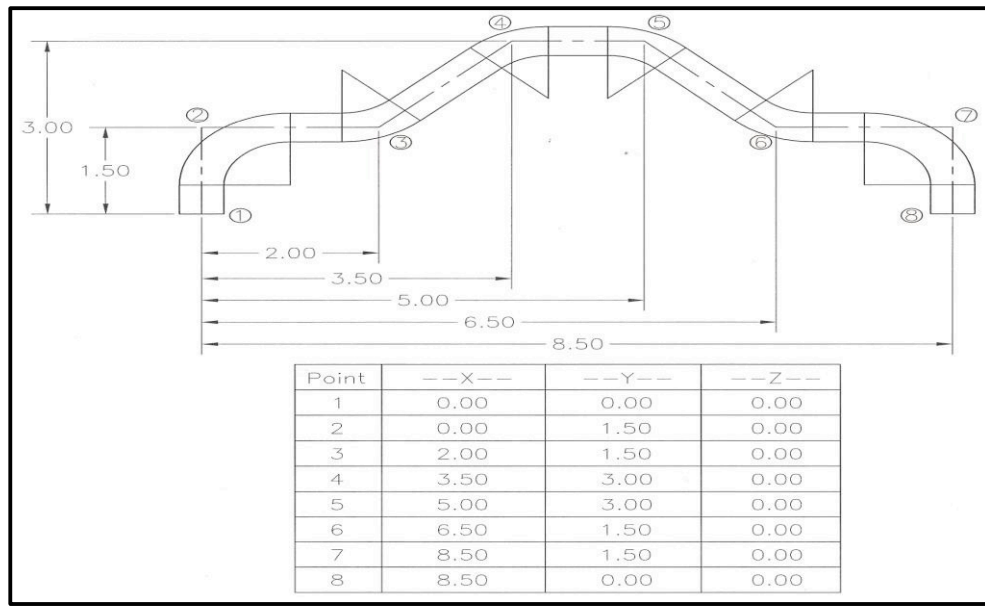

Figure 5—XYZ Coordinates
- Use absolute coordinate dimensions. The common name for this dimensioning system is X-Y-Z coordinates (refer to Figure 5-XYZ Coordinates). Always dimension from a datum reference point or origin.